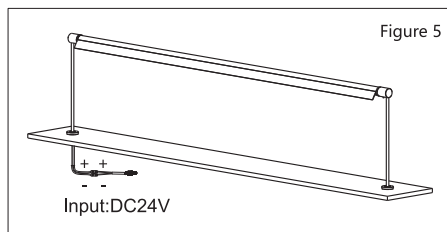

Figure 5
3. Thread the fixture's input wires and light pole through the holes of the mounting assembly in sequence, as illustrated in Figure 5.